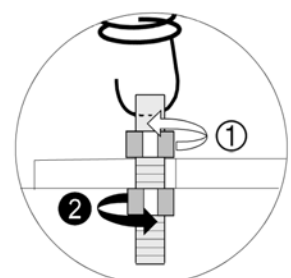

Fig. 66
- perform operations 1 and 2 shown in Fig. 66.